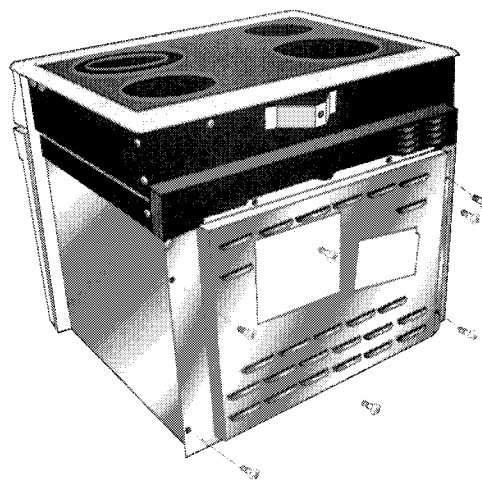

Fig. 29
4. Remove the seven (7) screws securing the service panel to the back of the range. (Fig. 29)